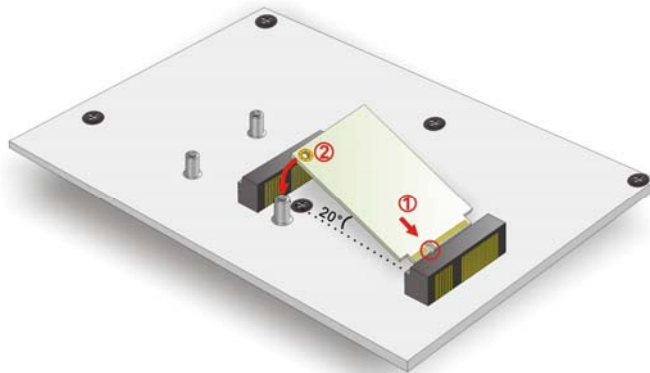

Figure 4-11: Insert the Full-size PCIe Mini Card into the Socket at an Angle
Step 3: **Insert into the socket at an angle.** Line up the notch on the card with the notch on the connector. Slide the PCIe Mini card into the socket at an angle of about 20° (**Figure 4-11**).